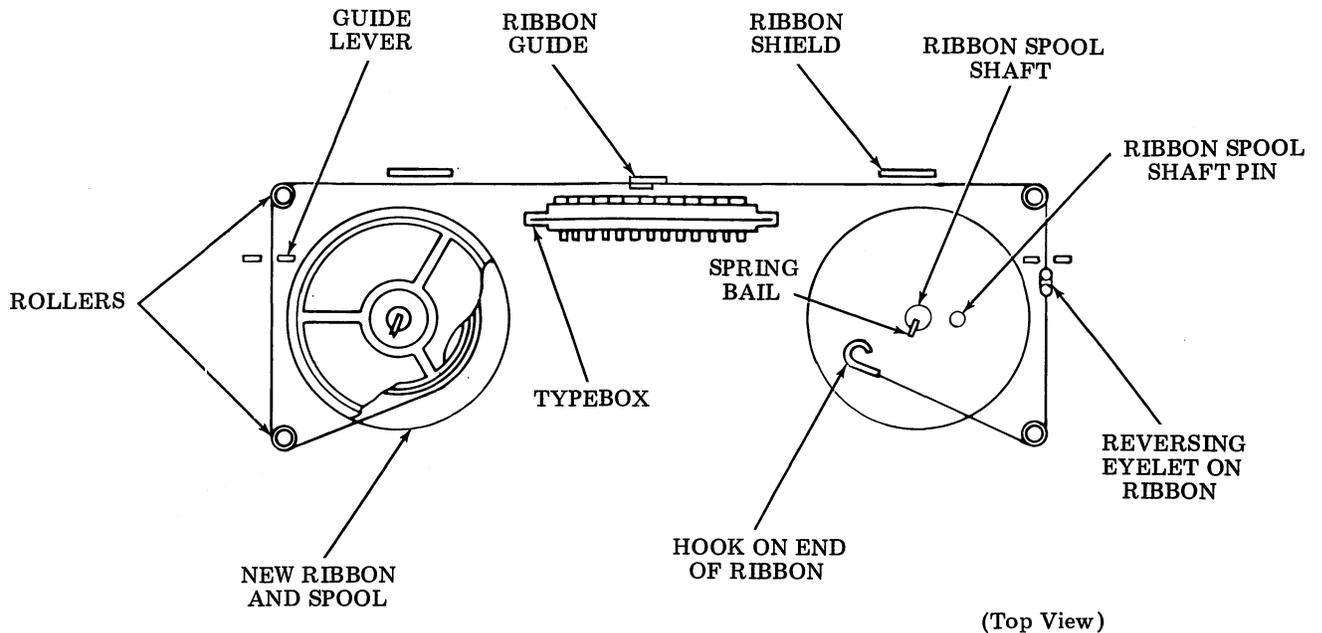

Figure 12 - Ribbon Routing
4.14 To route the new teletypewriter ribbon, straighten the spring bail on the ribbon spool shaft, and lift the spool of the shaft. Remove the packaging, and reel out enough ribbon to reach the empty spool, plus an additional three turns on the spool. Refer to Figure 12 and perform the following routing procedure: